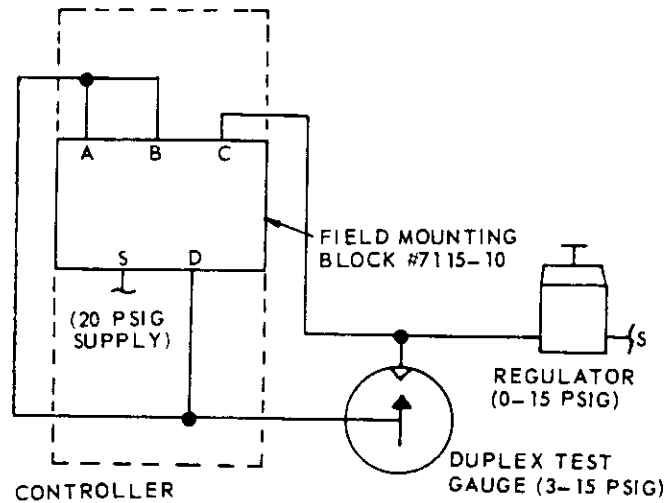

FIGURE 4
1. Set up the controller as per Fig. 4.